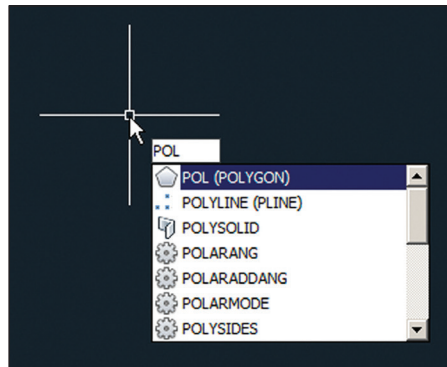

FIGURE 1.15 Command line's AutoComplete feature
11. Type `POL` and observe how the AutoComplete feature highlights commands in alphabetical order as you type (see Figure 1.15). Use the arrow keys to move up or down through the list; press Enter when you find the command for which you are looking, or click its name in the list instead of typing the entire word.